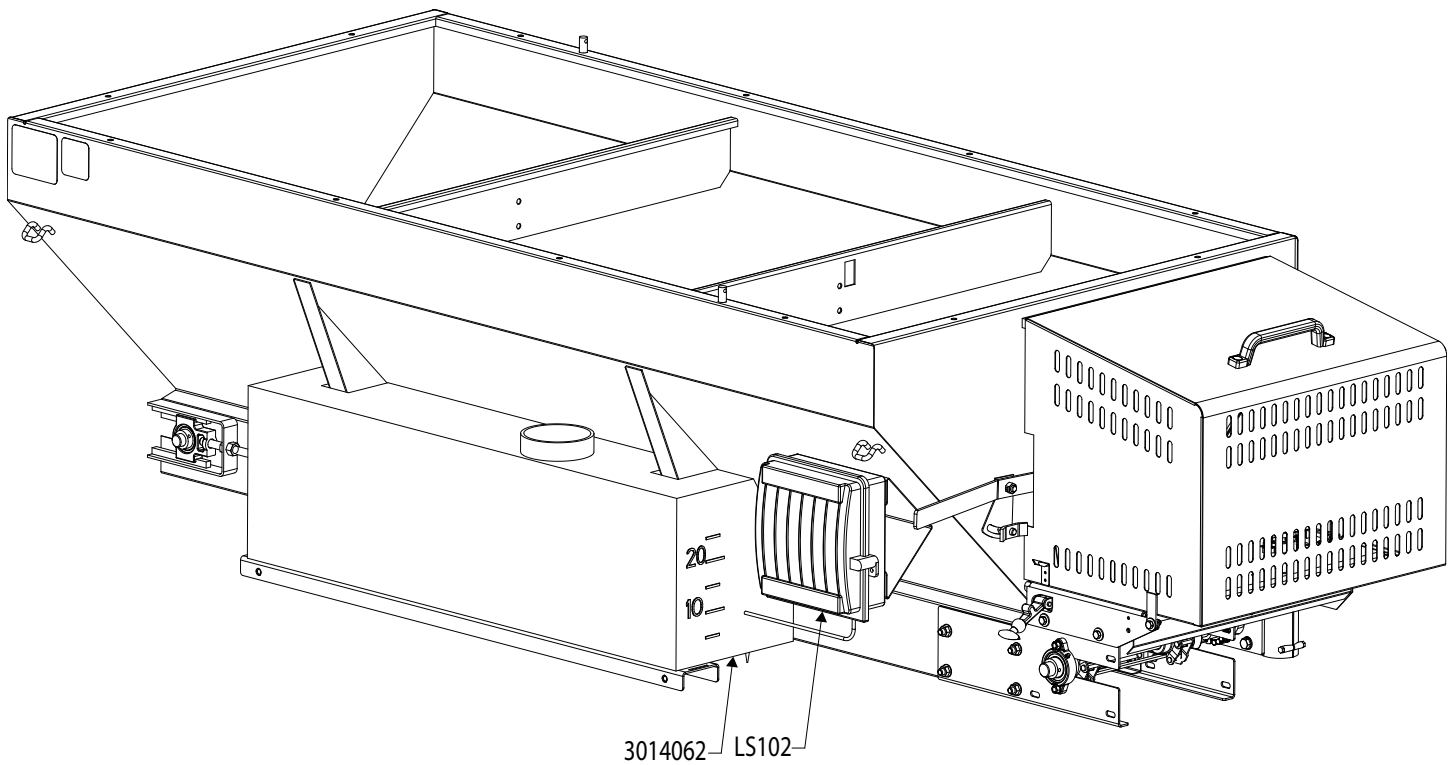

Fig. 2
- 2.** Position 30 gal. Tanks (#3014062) on supports as show in Fig.2
- 3.** Attach Enclosure Assembly (#LS102) to Enclosure Bracket using provided hardware as show in Fig.2.